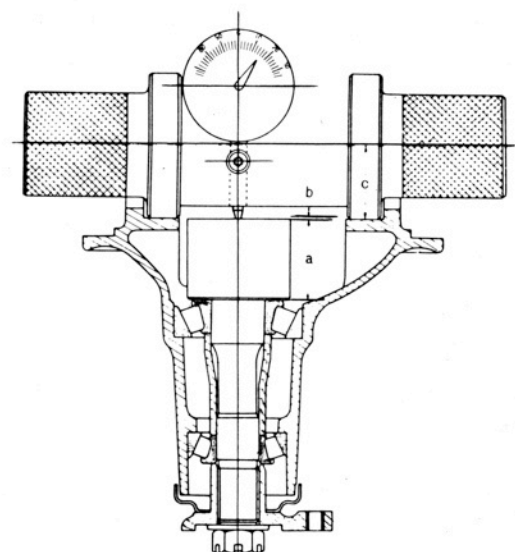

Fig. 4-8.
- 2) Set the special tool in position as illustrated in the Fig. 4-8. Tighten the nut to the 50-70 kg-cm (3.6-5.1 ft-lb) torque.